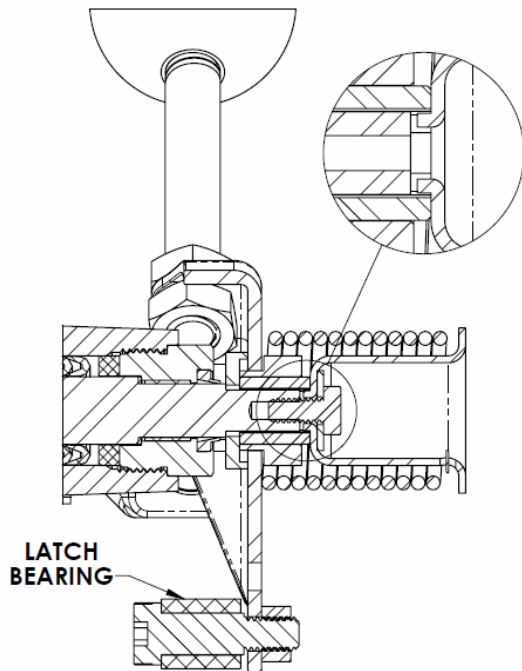
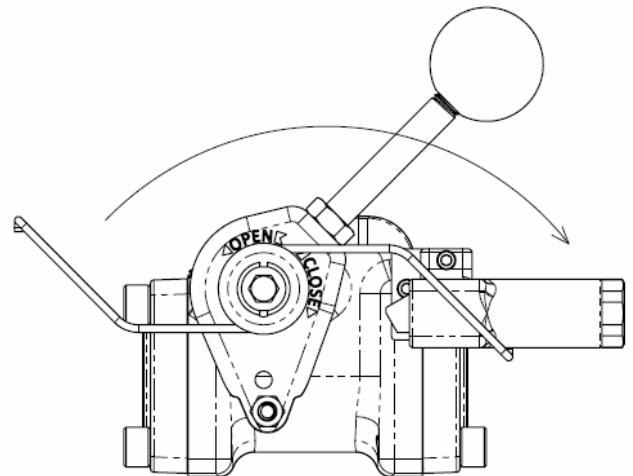

FIGURE 1: INSTALLATION OF SPRING RETAINER
FIGURE 2: INSTALLATION OF HANDLE SPRING
5. With Clapper closed, install Handle Assembly [18] onto Stem [2] with Latch Bearing facing down (Figure1).
8. Install Spring Retainer [6] into Thermal Link [10] as shown (Figure 1) with Handle Spring [7] arm oriented as shown (Figure 2).
10. Wind Handle Spring [7] arm clockwise and attach to Latch Assembly [16] (Figure 2).
1. With Clapper closed, Install Handle Assembly [18] onto Stem [2] with Latch Bearing facing down (Figure1).
4. Install Spring Retainer [6] into Thermal Link [10] as shown (Figure 1) with Handle Spring [7] arm oriented as shown (Figure 2).
6. Wind Handle Spring [7] arm clockwise and attach to Latch Assembly [16] (Figure 2).